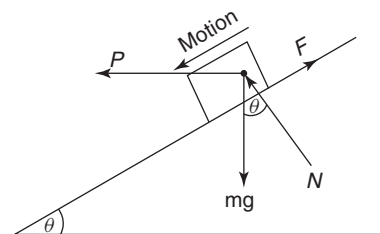

Figure 15.10
Problem 10. If the mass of Problem 9 were subjected to a horizontal force P , acting down the plane, as shown in Figure 15.10, determine the value of P which will just cause motion down the plane.
10. Determine P for Problem 6, if it were acting in the direction shown in Figure 15.10. [$P = 20.69 \text{ N}$]